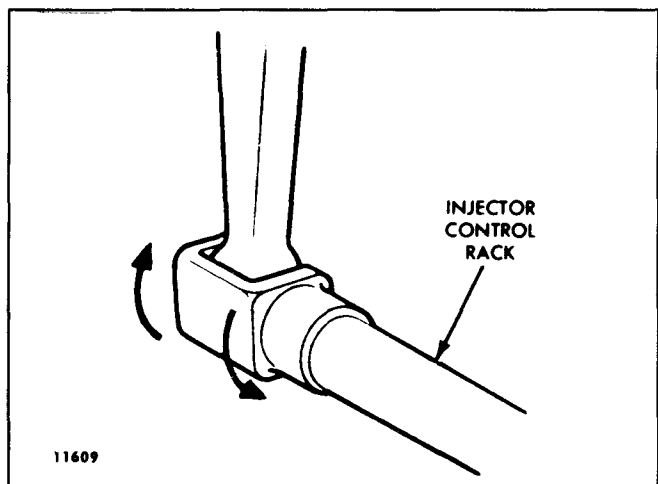

Fig. 4 - Checking Rotating Movement of Injector Control Rack
5. To be sure of proper rack adjustment, hold the stop lever in the *run* position and press down on the injector rack with a screwdriver or finger tip and note the “rotating” movement of the injector control rack (Fig. 4).